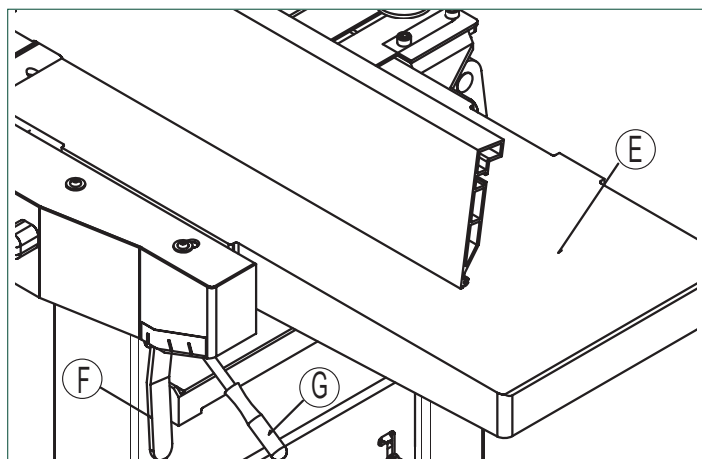

FIG. 8
With the height setting for the infeed table (E, Fig.8) the depth of cut is set when the machine is used for surface planing.
- The scale (F, Fig.8) next to the adjusting lever (G, Fig.8) corresponds to 1 mm chip removal.